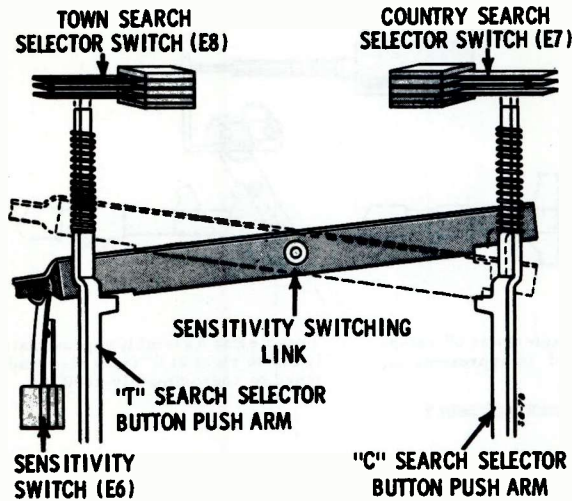

FIGURE 5. SWITCH OPERATIONS
1. The sensitivity switch E6 is either opened or closed by the action of the sensitivity switching link (see Figure 5 and SENSITIVITY SWITCHING) and one of the search selector switches (E7 or E8) is momentarily closed.
5. Contact B2 grounds the cathode resistor R13 of the RF and IF stages. While searching, when contact B2 is ungrounded, the bias of the RF and IF stages is determined by the position of switch E6 (see Figures 5 & 7). With switch E6 opened the bias is increased while searching because the cathode circuit is completed to ground through the additional cathode resistor R15. With switch E6 closed the bias remains normal even while searching.
The sensitivity of the radio is automatically changed when one of the search buttons is depressed. The "T" button lowers the sensitivity of the radio by opening switch E6. The "C" button increases the sensitivity by closing switch E6 (see Figure 5). The position of the switch E6 affects the sensitivity only when the radio is searching. When the tuner stops on a station the sensitivity is returned to its normal strength.